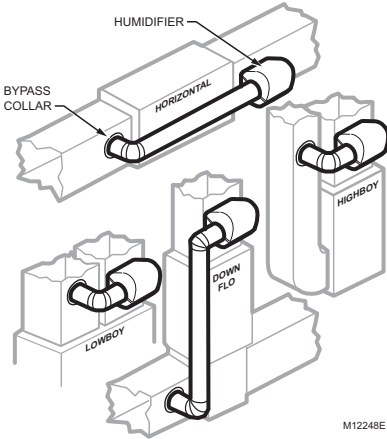

Fig. 1. Typical humidifier installation locations.
- Select a location for the humidifier on the supply (warm air stream) duct. See Fig. 1 for examples. Return duct mounting is acceptable if there are space restrictions on the supply duct. If you are mounting the humidifier on the return duct, simply swap “return duct” for “supply duct” throughout these instructions.